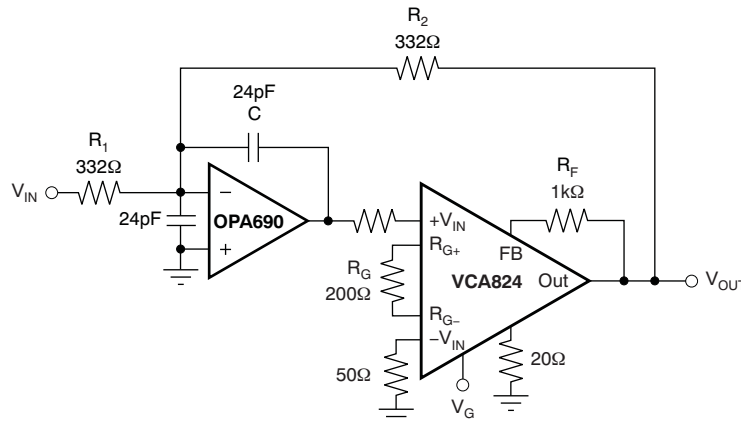

Figure 74. Voltage-Control Low-Pass Filter
In the circuit of Figure 74, the VCA824 serves as the variable-gain element of a voltage-controlled low-pass filter. This section discusses how this implementation expands the circuit voltage swing capability over that normally achieved with the equivalent multiplier implementation. The circuit control voltage, V_G , is calculated as according to the simplified relationship described in Equation 6.
Because the VCA824 is most linear in the midrange, the median of the adjustable pole should be set at $V_G = 0\text{V}$ (see Figure 13, Figure 33, Figure 54, and Equation 8). Selecting $R_1 = R_2 = 332\Omega$, and targeting a median frequency of 10MHz, the capacitance (C) is 24pF. Because the OPA690 was selected for the circuit of Figure 74, and in order to limit peaking in the OPA690 frequency response, a capacitor equal to C was added on the inverting mode to ground. This architecture has the effect of setting the high-frequency noise gain of the OPA690 to 2V/V, ensuring stability and providing flat frequency response.